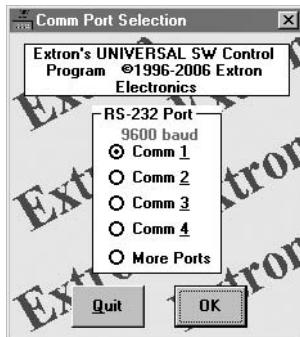

Figure 3-3 — Comm port selection window
2. In the Comm Port Selection window (figure 3-3), click the comm port that is connected to the MSW's RS-232 port.